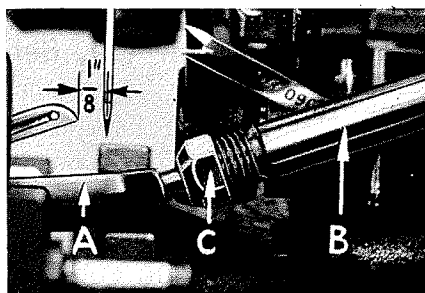
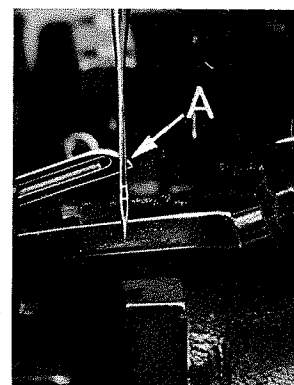

Fig. 5
Fig. 7
Insert the 503 stitch lower looper (A, Fig. 5) into bar (B). With lower looper at left end of its stroke set looper point  $1/8$  inch from center of needle (Fig. 5) using looper gauge No. 21225- $1/8$ . Do not have lower looper deflecting needle. Do not lock looper nut (C) because the looper point will have to be set to the needle scarf after the rear needle guard has been assembled and positioned. (See paragraph under "Final Setting of Lower Looper.")
Now finish lower looper adjustment. As lower looper moves to the right its point should be set into the needle scarf (A, Fig. 7) until the needle springs forward from the rear needle guard surface another .002 to .004 inch. This setting is obtained by rocking the looper forward or backward around its shank. Recheck the  $1/8$  inch looper gauge setting and tighten nut (C, Fig. 5).